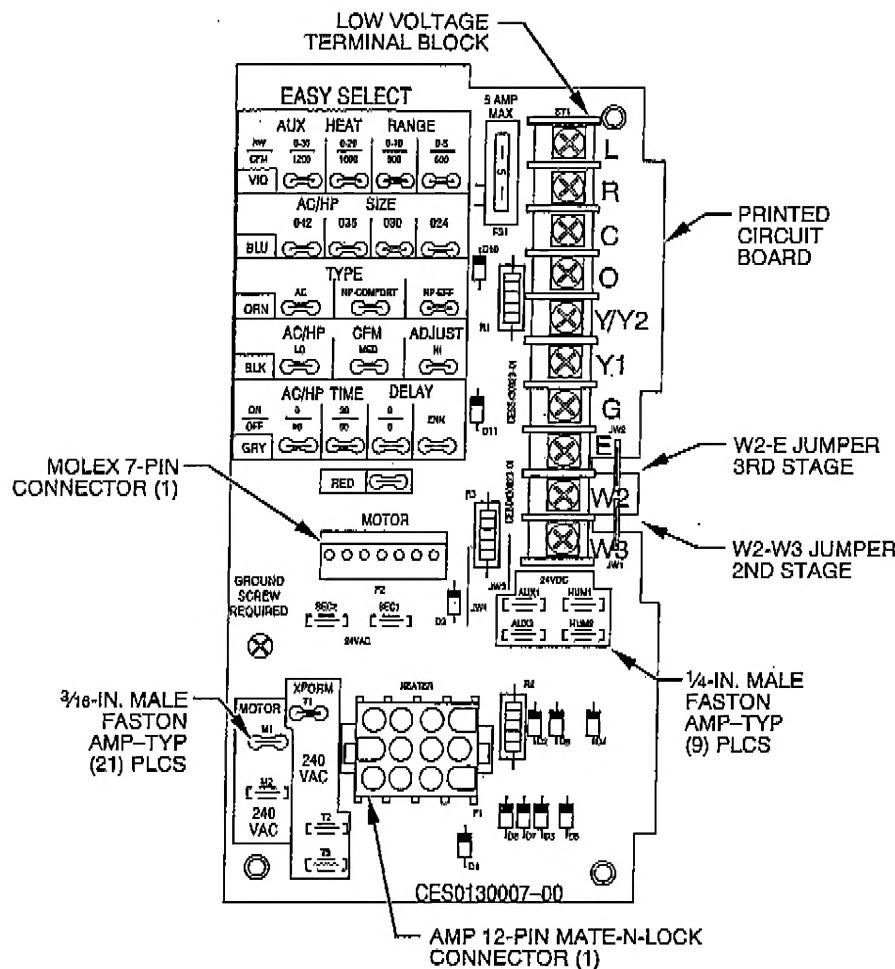

Fig. 6—Easy Select Board
**NOTE:** Layout of actual PCB is depicted in Fig. 6 and 7.
The Easy Select taps are used by installer to configure system. The ICM2 uses selected taps to modify its operation to a pre-programmed table of airflows. Airflows are based on system size or mode of operation and those airflows are modified in response to other inputs such as the need for de-humidification. (See Fig. 6.)
electric heaters are energized, the ICM2 will run the higher of heat pump efficiency airflow and electric heater airflow. The factory selection is largest heater range approved. (See Fig. 6.)
The factory setting for air conditioner or heat pump size is largest unit meant for application with model of fan coil purchased. The installer needs to select air conditioner or heat pump size to ensure that airflow delivered falls within proper range for size of unit installed in all operational modes. (See Fig. 6.)
The factory setting is AC. (See Fig. 6.)
Select low, medium, or high airflow. To provide any of these airflows, AC/HP ADJUST select must be moved to MED position. The factory selection is LO. The adjust selections HI/LO will regulate airflow supplied for all operational modes, except non-heat pump heating modes, +10 percent and -10 percent respectively. The adjust selection options are provided to adjust airflow supplied to meet individual installation needs for such things as noise, comfort, and humidity removal. (See Fig. 6.)
Select desired time delay profile. Four motor operation delay profiles are provided to customize and enhance system operation. (See Fig. 6.) The selection options are:
1. Check low-voltage transformer leads (red and brown). Be sure they are wired to correct locations. (See Fig. 6 and 8.)
2. Check output voltage of transformer secondary side SEC2 and SEC1. Be sure transformer output is around 24 vac. If transformer output is zero vac and transformer is receiving correct input voltage (208v or 240v), then transformer needs to be replaced with recommended transformer. If transformer output is 24 vac, proceed to items 3 and 4.
3. Check low-voltage fuse shown in Fig. 6. If fuse is blown, replace it. The transformer cannot supply power to board with fuse blown or loose. If fuse blows when unit has power applied to it, the system most likely has 1 of the following problems: